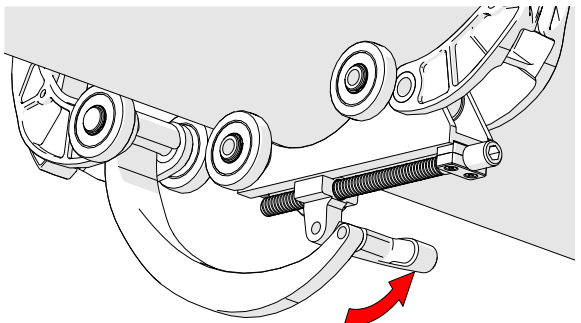

Fig. 110 - Press down to lock
8. Rotate the knob until the QuickLink Buckle's lever can be pushed down, locking the QuickLink Buckle in place (Fig. 110). The tightness of the **ROTIX** on the pipe can be adjusted using the QuickLink Buckle adjustment knob (Fig. 109-1).